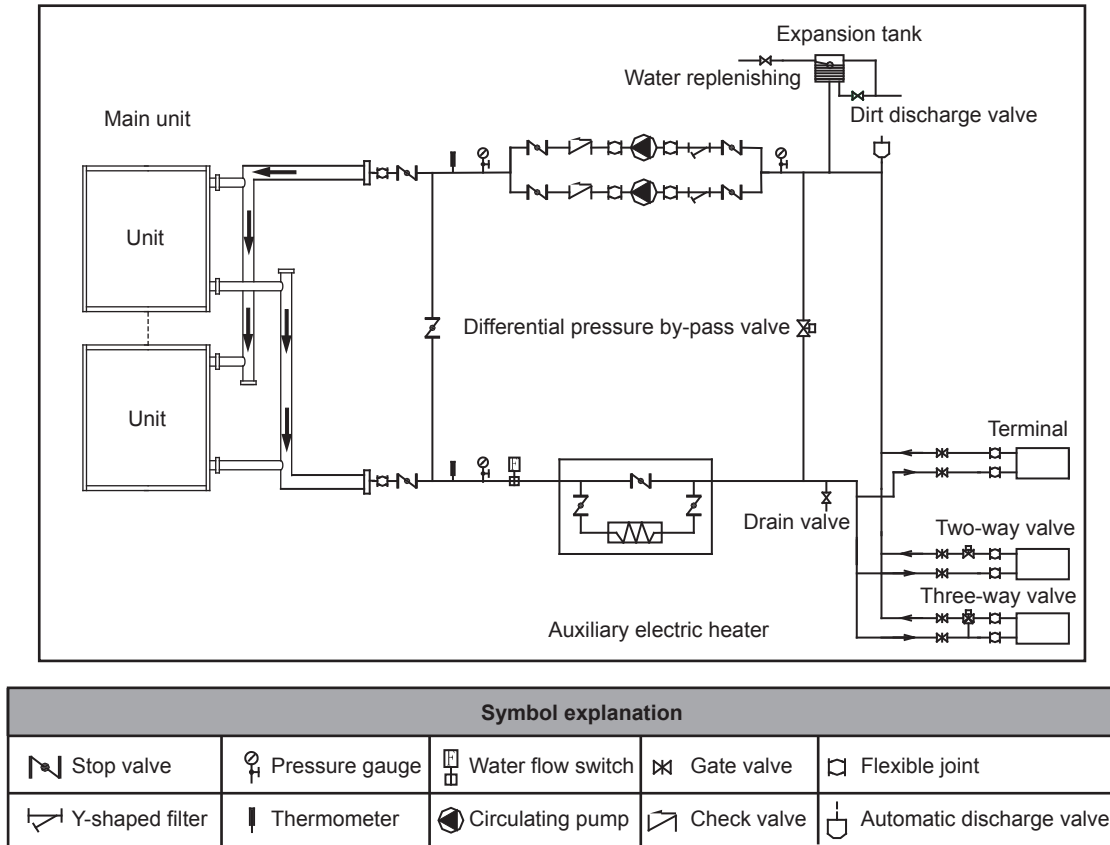

Fig. 4-1
- h. The by-pass pipes and by-pass valves as shown in Fig. 4-1 must be mounted for the heat exchanger, to facilitate cleaning of the outside system of water passage before the unit is adjusted. During maintenance, the water passage of the heat exchanger can be cut off without disturbing other heat exchangers.